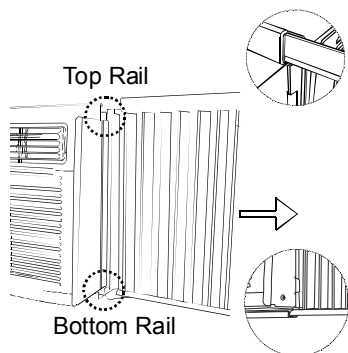

Fig.3
- C. Once the panel has been installed on the side of the cabinet, make sure it sits securely inside the frame channel by making slight adjustments. Slide the top and bottom ends of the frame into the top and bottom rails of the cabinet. Fig.3.